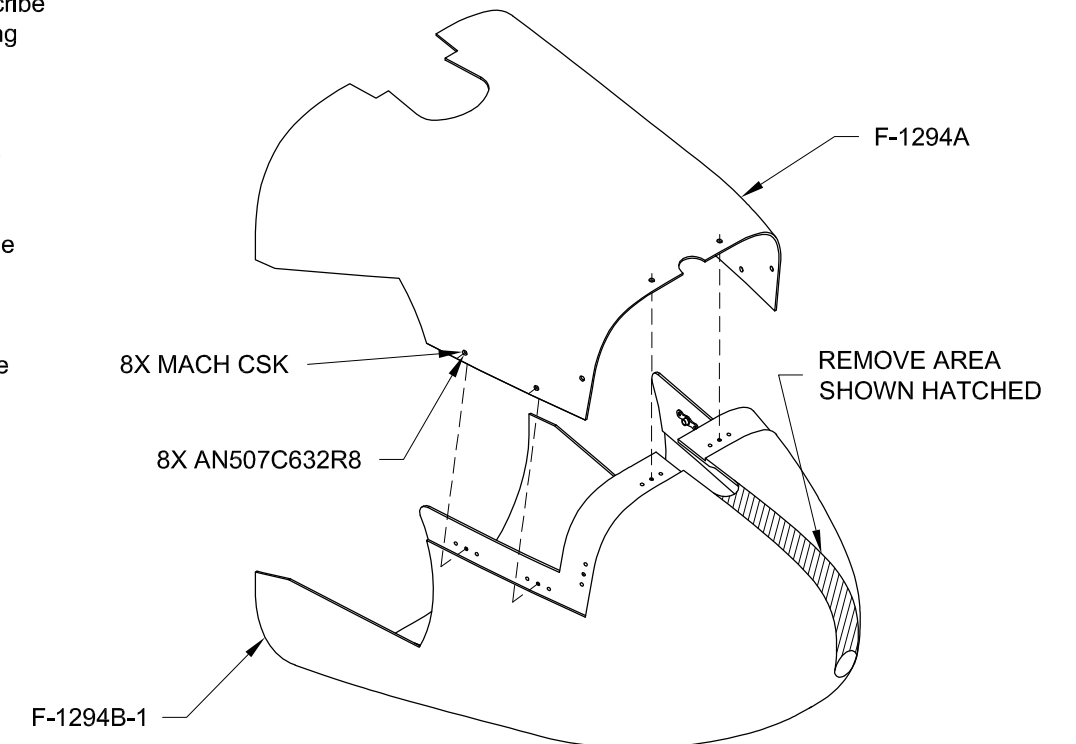

FIGURE 3:
Step 7: Trim the aft slot to the scribe line in the F-1294B-1 by removing the material shown hatched in Figure 3.
Step 8: Machine countersink the F-1294A as shown in Figure 3.
Step 9: Attach the F-1294A to the F-1294B-1 using the hardware called out in Figure 3.